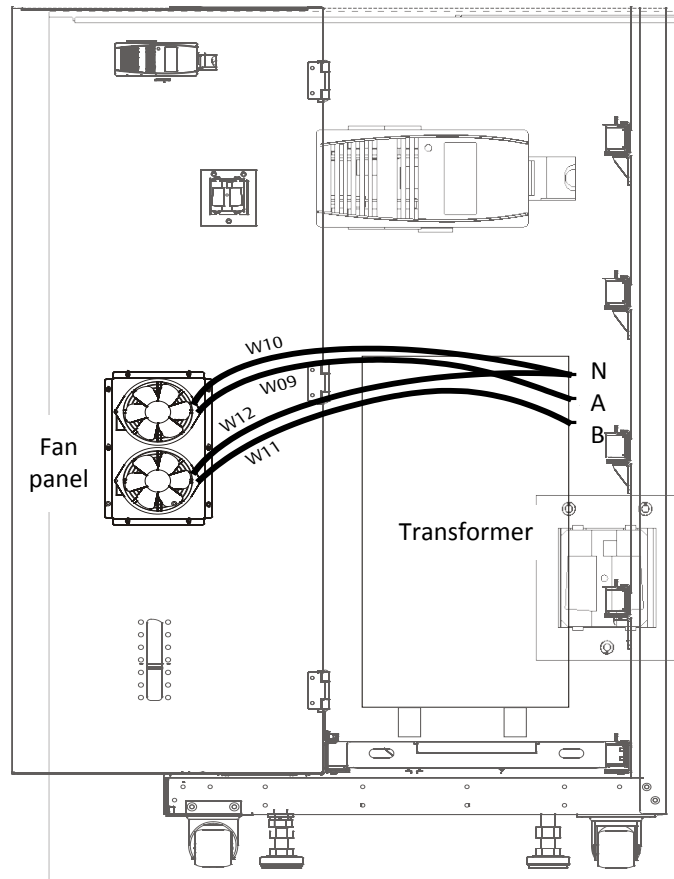

Figure 8-30 Installing fans
b) Connect the cables from the two fans respectively to terminals (N-A) of the output transformer primary side and terminals (N-B) of the output transformer primary side, see Figure 8-30.